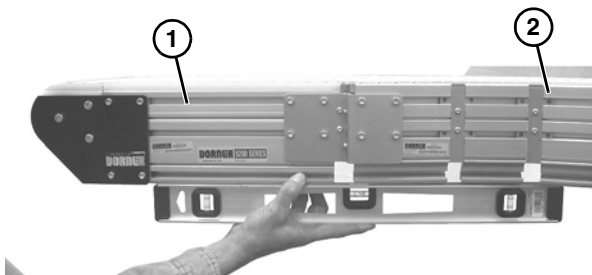

Figure 8
*The bottom of the straight frame sections (**Figure 8, item 1**) and curve frame sections (**Figure 8, item 2**) must be level.*